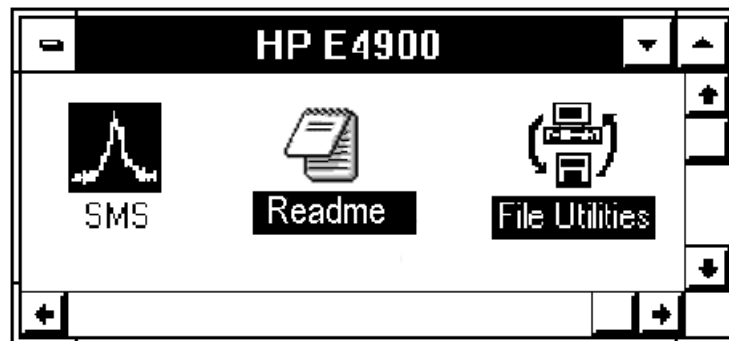

Figure 3-1: : HP E4900 Control Window
Your system will now power up and the Monitoring Software will execute to display the HP E4900 control window (Figure 3-1).
1. Double click the **SMS** icon (Figure 3-1) in the HP E4900 Control Window.